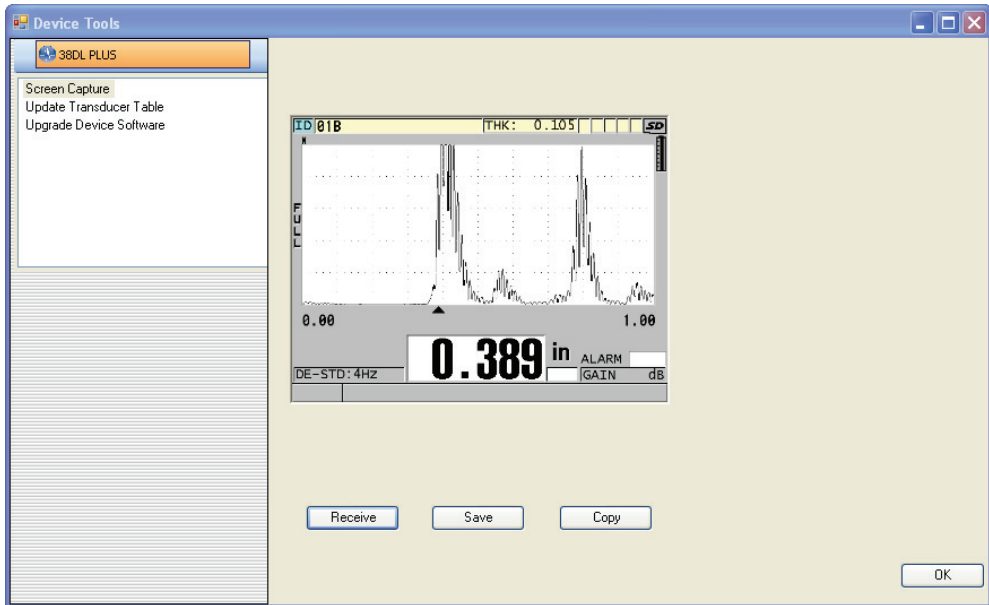

Figure 14-8 The Device Tools dialog box with a screen capture
- b) In the **Device Tools** dialog box (see Figure 14-8 on page 255), select **Screen Capture**, and then click **Receive**.